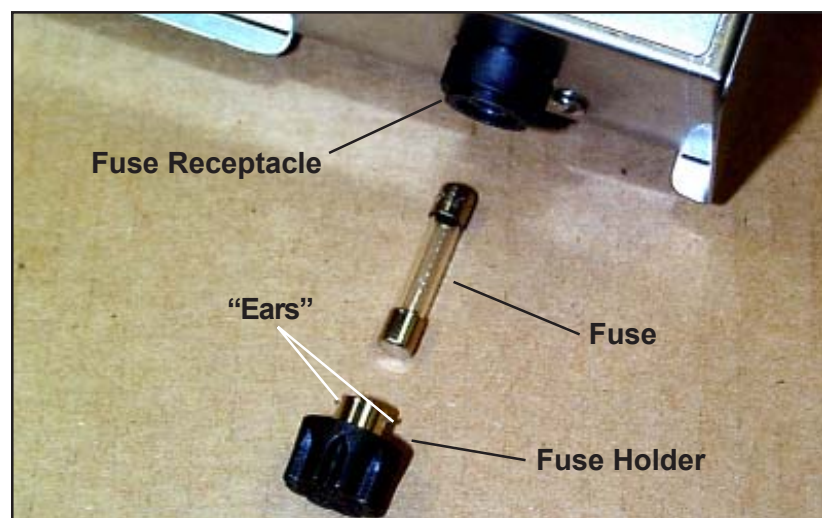

Figure 15. Fuse Assembly in Heat Controller
2. Rotate the grooved fuse holder counterclockwise until it releases (about 1/4 turn) and pull it out of the fuse receptacle (Figure 15).
1. Press either end of the new fuse into the fuse holder (Figure 15).